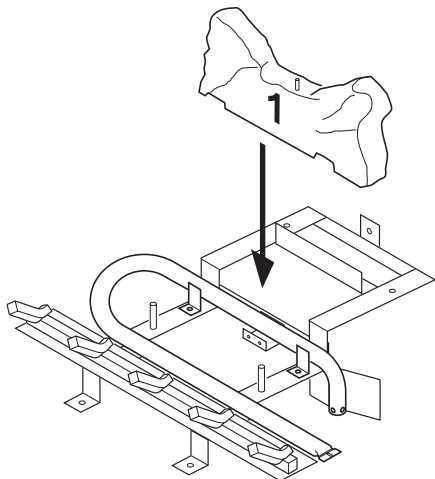

Figure 44 - Installing Log No. 1
1. Place log #1 (rear log) on top of grate. Make sure the notches in the bottom of the log fit over the grate (see Figure 44).